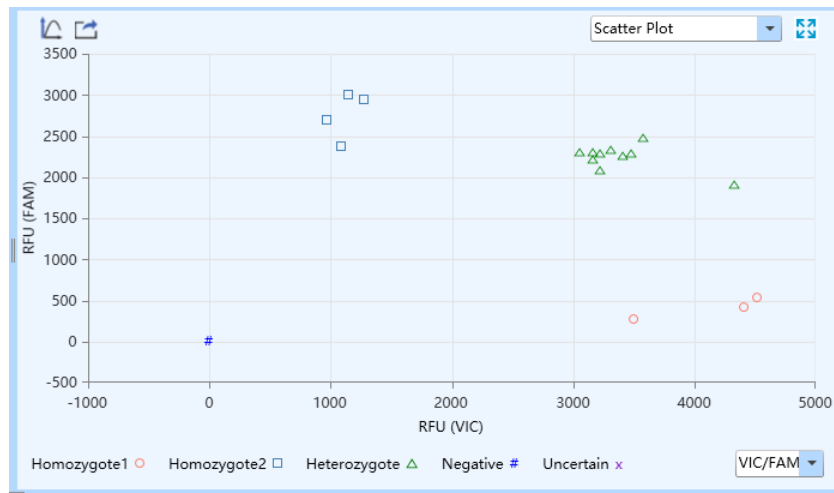

Figure D-16.1. Genotyping Analysis Interface - Scatter Plot Functional Module
**I. Scatter Plot:** display the end point fluorescence distribution of two dyes, as shown in figure D-16.1.